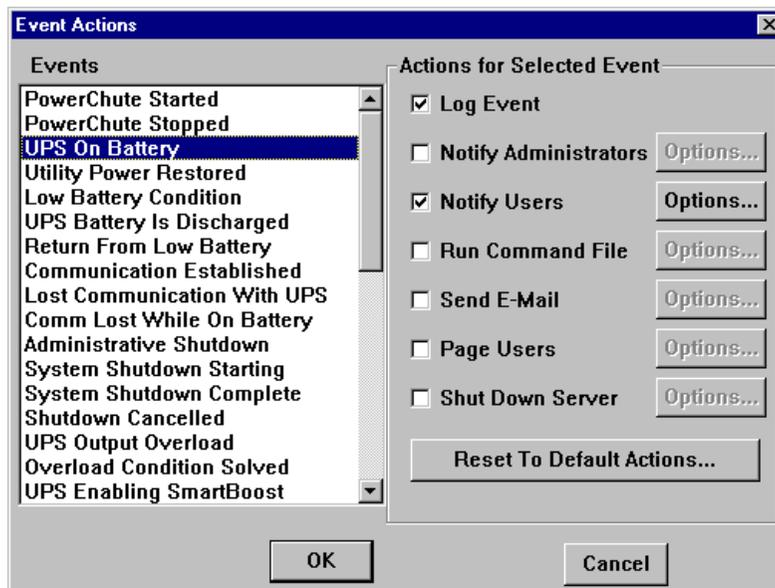

Figure 172. Configuring the UPS on Battery Event
1. Click **Configuration -> Event Actions**. Figure 172 appears:
1. From the Event Actions window (Figure 172), select the **Low Battery Condition** event.